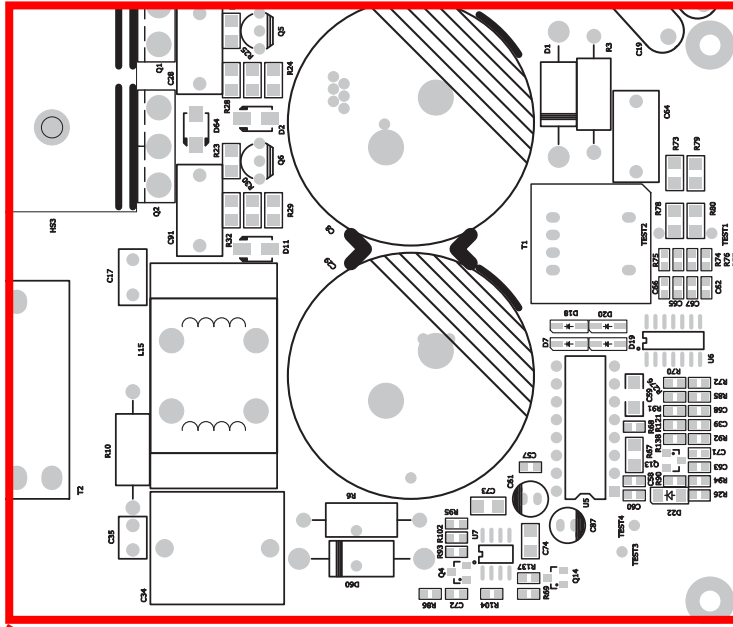

Figure 2a.
2. Place PCB on work appropriate surface and locate diodes D1 and D60. Shown in figures 2a and 2b below. Please take appropriate ESD precautions.